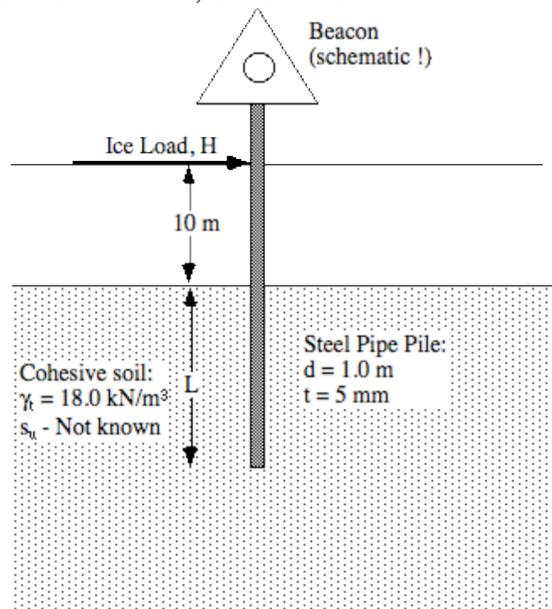

Figure 3. Ice Loading of a Lightweight Tower
3. Figure 3 shows an idealised representation of a generic lightweight tower to be used as a passage marking beacon for a navigation channel. The structure can be represented as a single column which is loaded in winter by a lateral ice force, H , acting at an elevation +10m above the mudline. Below the mudline, the structure will be designed as a steel pipe section pile with diameter, $d = 1\text{m}$, and wall thickness $t = 5\text{mm}$. The underlying soil deposits comprise deep cohesive sediments, whose strength profile must be determined at each site.